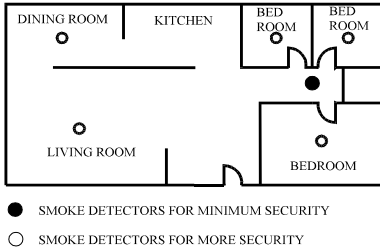

Figure 1: Installation locations for smoke & heat detectors in single- family apartments or homes with only one sleeping area
- Install a smoke & heat detector in the hallway outside of every separate sleeping area (*see Figure 1*). Two detectors are necessary in a building with two areas with bedrooms.